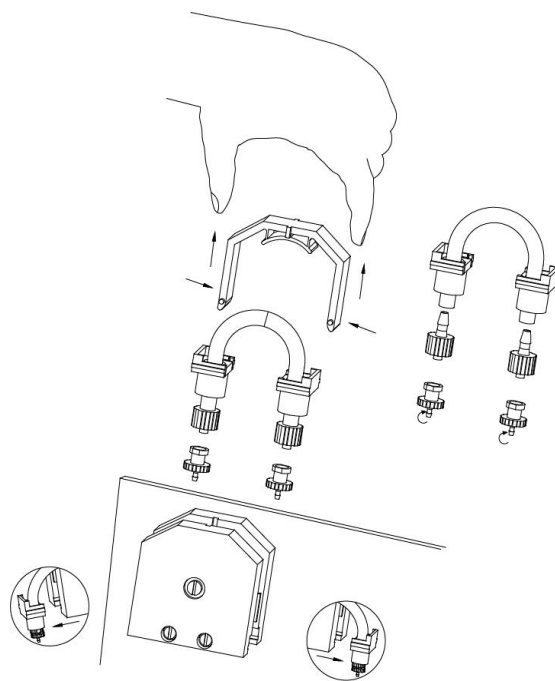

Figure 5
3. Install tubing cover by squeezing both sides, and sliding into grooves. See *Figure 5*.